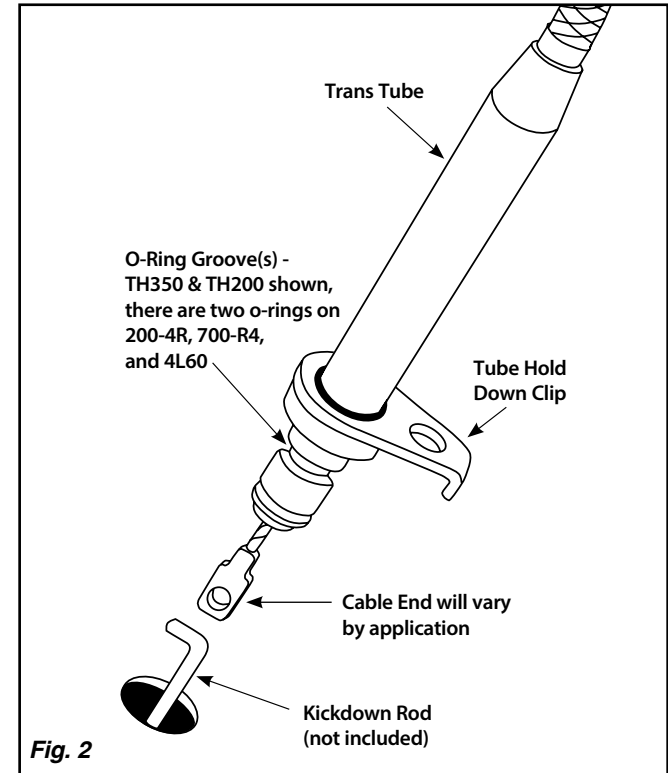

Fig. 2
Step 3: From the engine end of the Blower Drive Kickdown Cable housing, install the tube hold down clip onto the cable housing with the lip pointed downwards, and slide it down to the trans tube at the end of the cable housing. Temporarily install the cable housing into the transmission without the o-ring(s) and inner wire. Loosely install the bolt for the tube hold down clip, to keep the cable housing from accidentally coming out of the transmission. **Fig. 2**
Step 8: On the trans tube at the transmission end of the Blower Drive Kickdown Cable there will be either one or two o-ring grooves. TH350 & TH200 use one o-ring, and the 700R4, 200-4R, and 4L60 use two o-rings. Lightly lubricate the o-ring(s) with clean transmission fluid and slide the o-ring(s) into the groove(s) on the trans tube. To help prevent leakage add a small amount of silicone sealant (RTV) around the trans tube above the top o-ring. **Fig. 2**